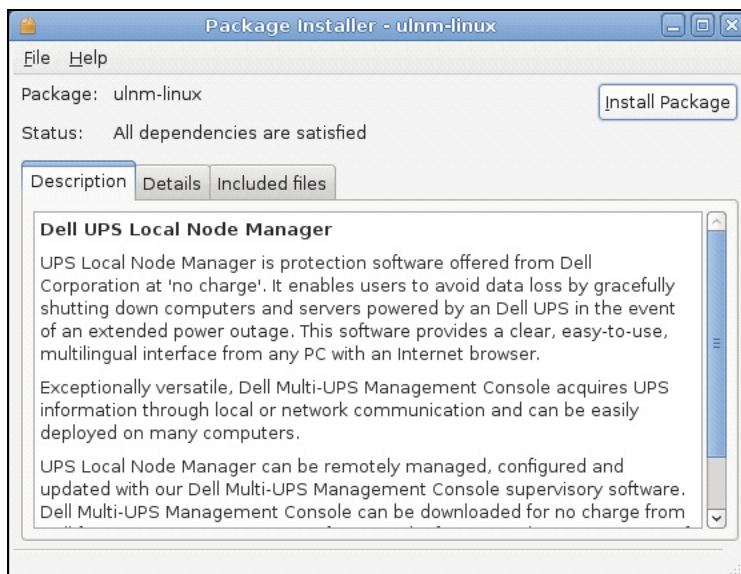

Figure 12. Dell ULNM Linux GDB Graphical Package Installer
- 2 The system prompts for the root password, and then launches a graphical front end, such as Gdebi, as shown in Figure 12: